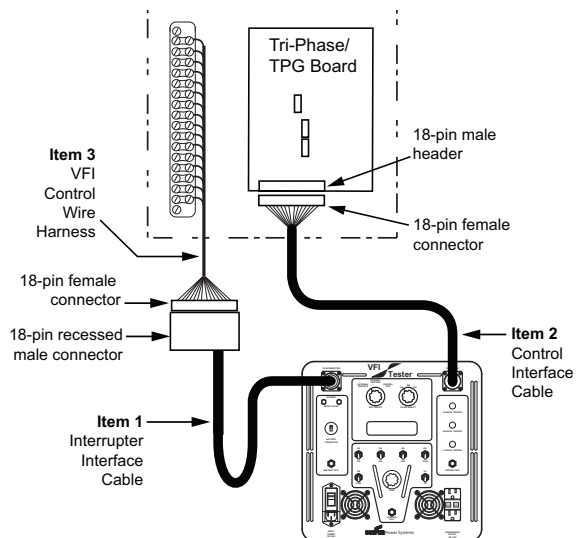

Figure 4. Connection of VFI tester to top-hinged VFI units with TPG controls and all VFI units with Tri-Phase controls.
3. Connect the 14-pin female/14-pin male interrupter interface cable (Item 1) to the VFI tester at the interrupter port. Refer to Figure 4 for steps 3 through 8.